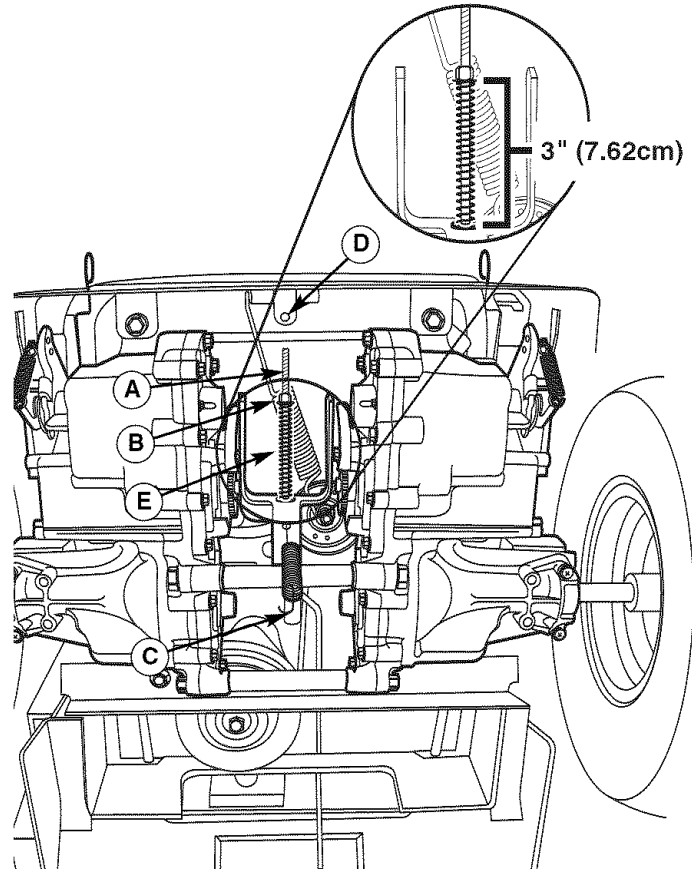

Figure 34. Brake Adjustment
2. Locate the brake rod (A, Figure 34) and adjustment nut (B).
4. Measure the parking brake spring (E). Its compressed length, with the ground speed levers in their PARK positions should be 3" (7.62cm). Adjust the spring length by turning the adjustment nut (B), if necessary.